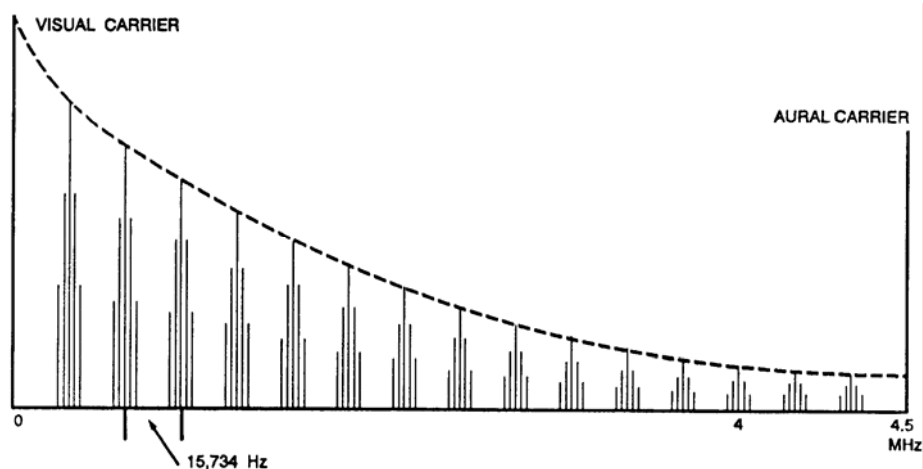
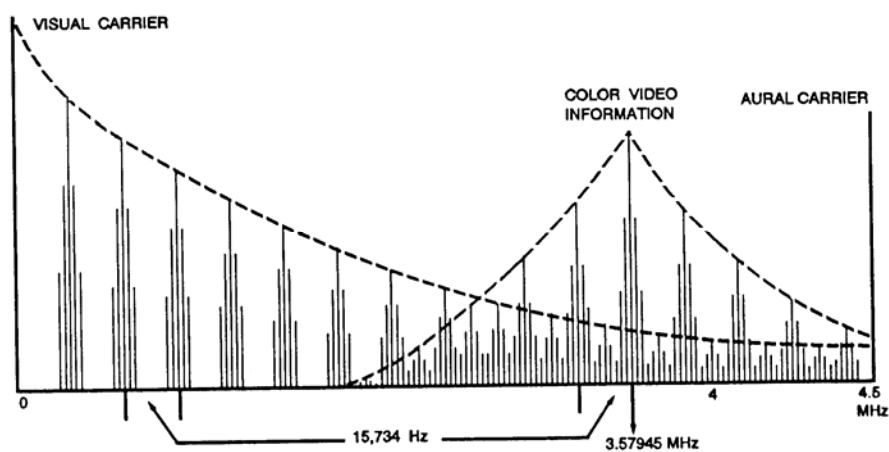

Figure S-20. Black and White Video Energy Distribution
Figure S-21. Placement of the Color Subcarrier
(1) A number of studies have investigated the color discerning characteristics of the human eye. Briefly, here is what they found: the typical human eye sees a full color range only when the area or object is relatively large. When the size of the area or object decreases, it becomes more difficult for the eye to distinguish between colors. Thus, where the eye required three primary colors, now it finds that it can get along very well with only two. That is, these two colors will, in different combinations, provide the limited range of colors that the eye needs or can see in these medium-sized areas.
(2) Finally, when the detail becomes very small, all that the eye needs or can discern are changes in brightness. Colors cannot be distinguished from gray; in effect, the eye is color-blind.
(3) These properties of the eyes are put to use in the NTSC color system. First, only the large and medium-sized areas are colored; the fine detail is found in black and white. Second, as we shall see later, even the color information is regulated according to bandwidth; that is, the larger objects receive more of the red, green, and blue than the medium-sized objects.
(4) The color signal takes the form of subcarrier and an associated set of sidebands. The subcarrier frequency is 3.579545 MHz or rounded off, 3.58 MHz. This represents a figure, which is the product (approximately), of 7,875 Hz multiplied by 455. The value 7,875 is one-half the line frequency of 15,750 Hz, and if we use an odd multiple of 7,875 Hz as a carrier, the frequency falls midway between the harmonics of 15,750 Hz. If we use even multiples of 7,875, we would end up with 15,750 Hz or one of its harmonics; this would place the color signal at the same points (throughout the band) as those occupied by the black-and-white signal. Refer to Figure S-20. By taking an odd multiple of 7,875 Hz, we cause the signal to fall in between the bundles of energy produced by the first signal, and the two do not interfere.
(5) It is highly desirable to have the color subcarrier frequency as high above the picture carrier as possible in order to minimize the interference with the black and white video information (see Figure S-20). Research has shown that the average energy level of the black and white video falls very rapidly with increasing video frequencies. By placing the color subcarrier as high as possible in Figure S-21, the different energy levels minimize possible interference. Practical limits set the upper limit to 3.6 MHz.